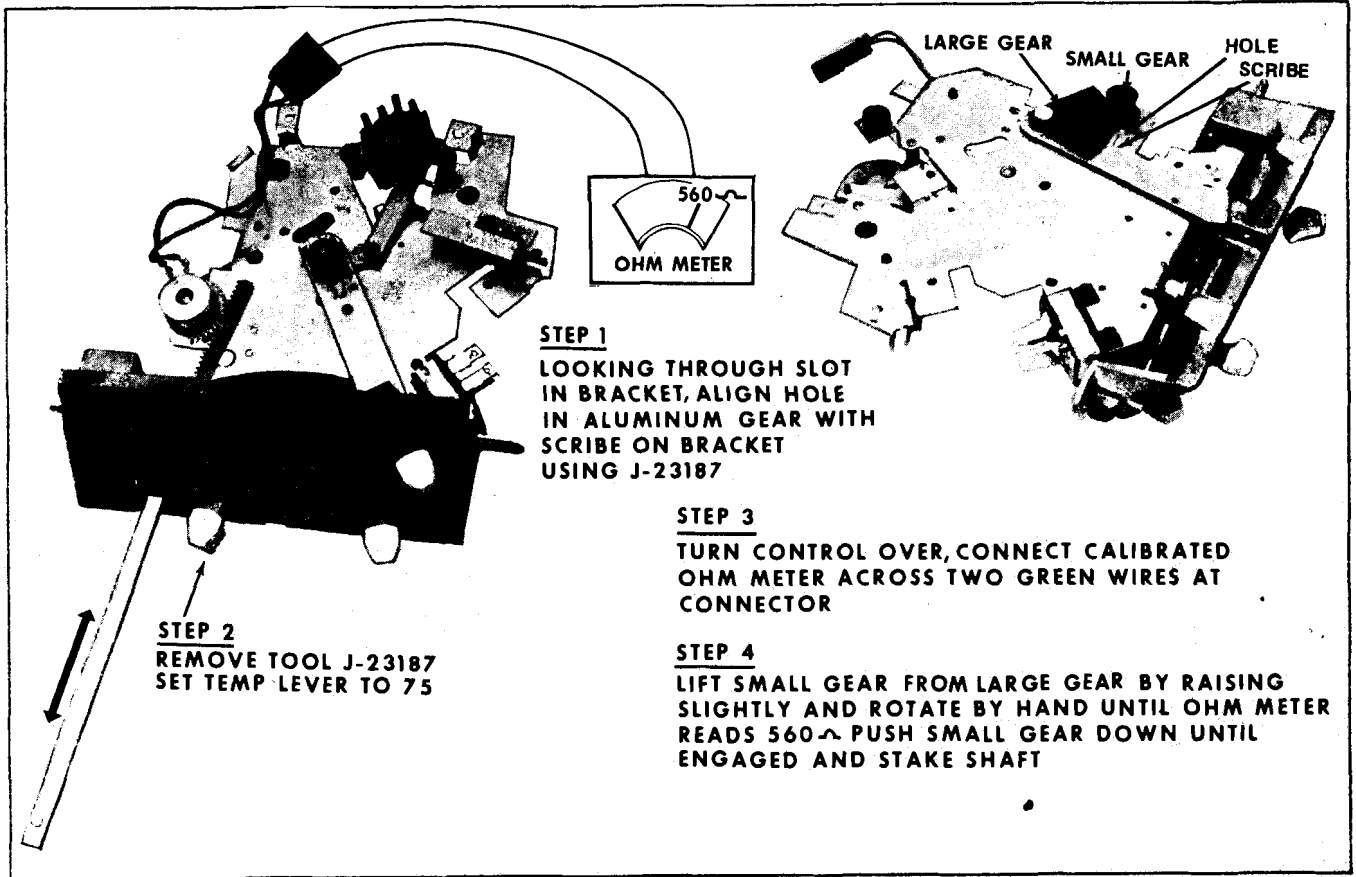

Fig. 1B-8 Using Tool J 23187 To Adjust Variable Resistor
2. Refer to Fig. 1B-1 for in car harness routing.